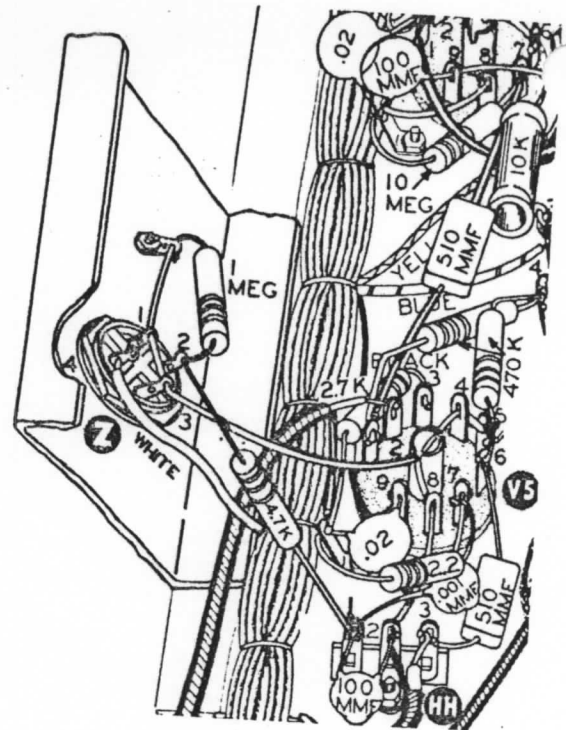

Figure 28
- (✓) Refer to Figure 28 and connect the white wire from BO#9 to the microphone connector lug Z4 (S-1).
- (✓) Connect a 4.7 KΩ 1/2 watt resistor (yellow-violet-red) between Z2 (NS) and HH1 (S-3).
- (✓) Connect a 1 megohm 1/2 watt resistor (brown-black-green) between Z2 (S-2) and the ground lug opposite Z1 (NS).
- (✓) Connect the #20 bare wire from V5 center post through Z3 (NS), through Z1 (NS) and connect to the ground lug opposite Z1 (S-2). Now solder Z1 and Z3.